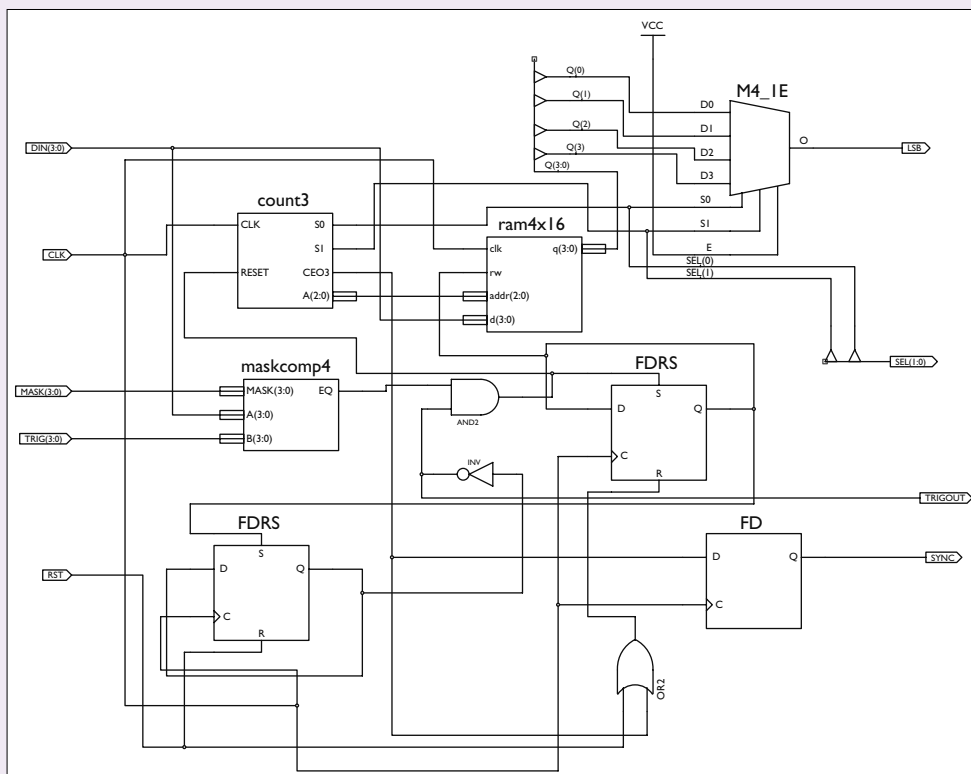

Figure 7. The top level schematic.
You can see the top-level schematic for the scope in Figure 7. Notice that the RAM and the counter are both Verilog modules. The MASKCOMP module is another schematic (Figure 8). The M4_1E, FDRS and FD components are all standard components from the Xilinx library. The SEL(1) signal connects to the MSB of the DAC and SEL(0) connects to the middle bit. The LSB output connects to the LSB input of the DAC.